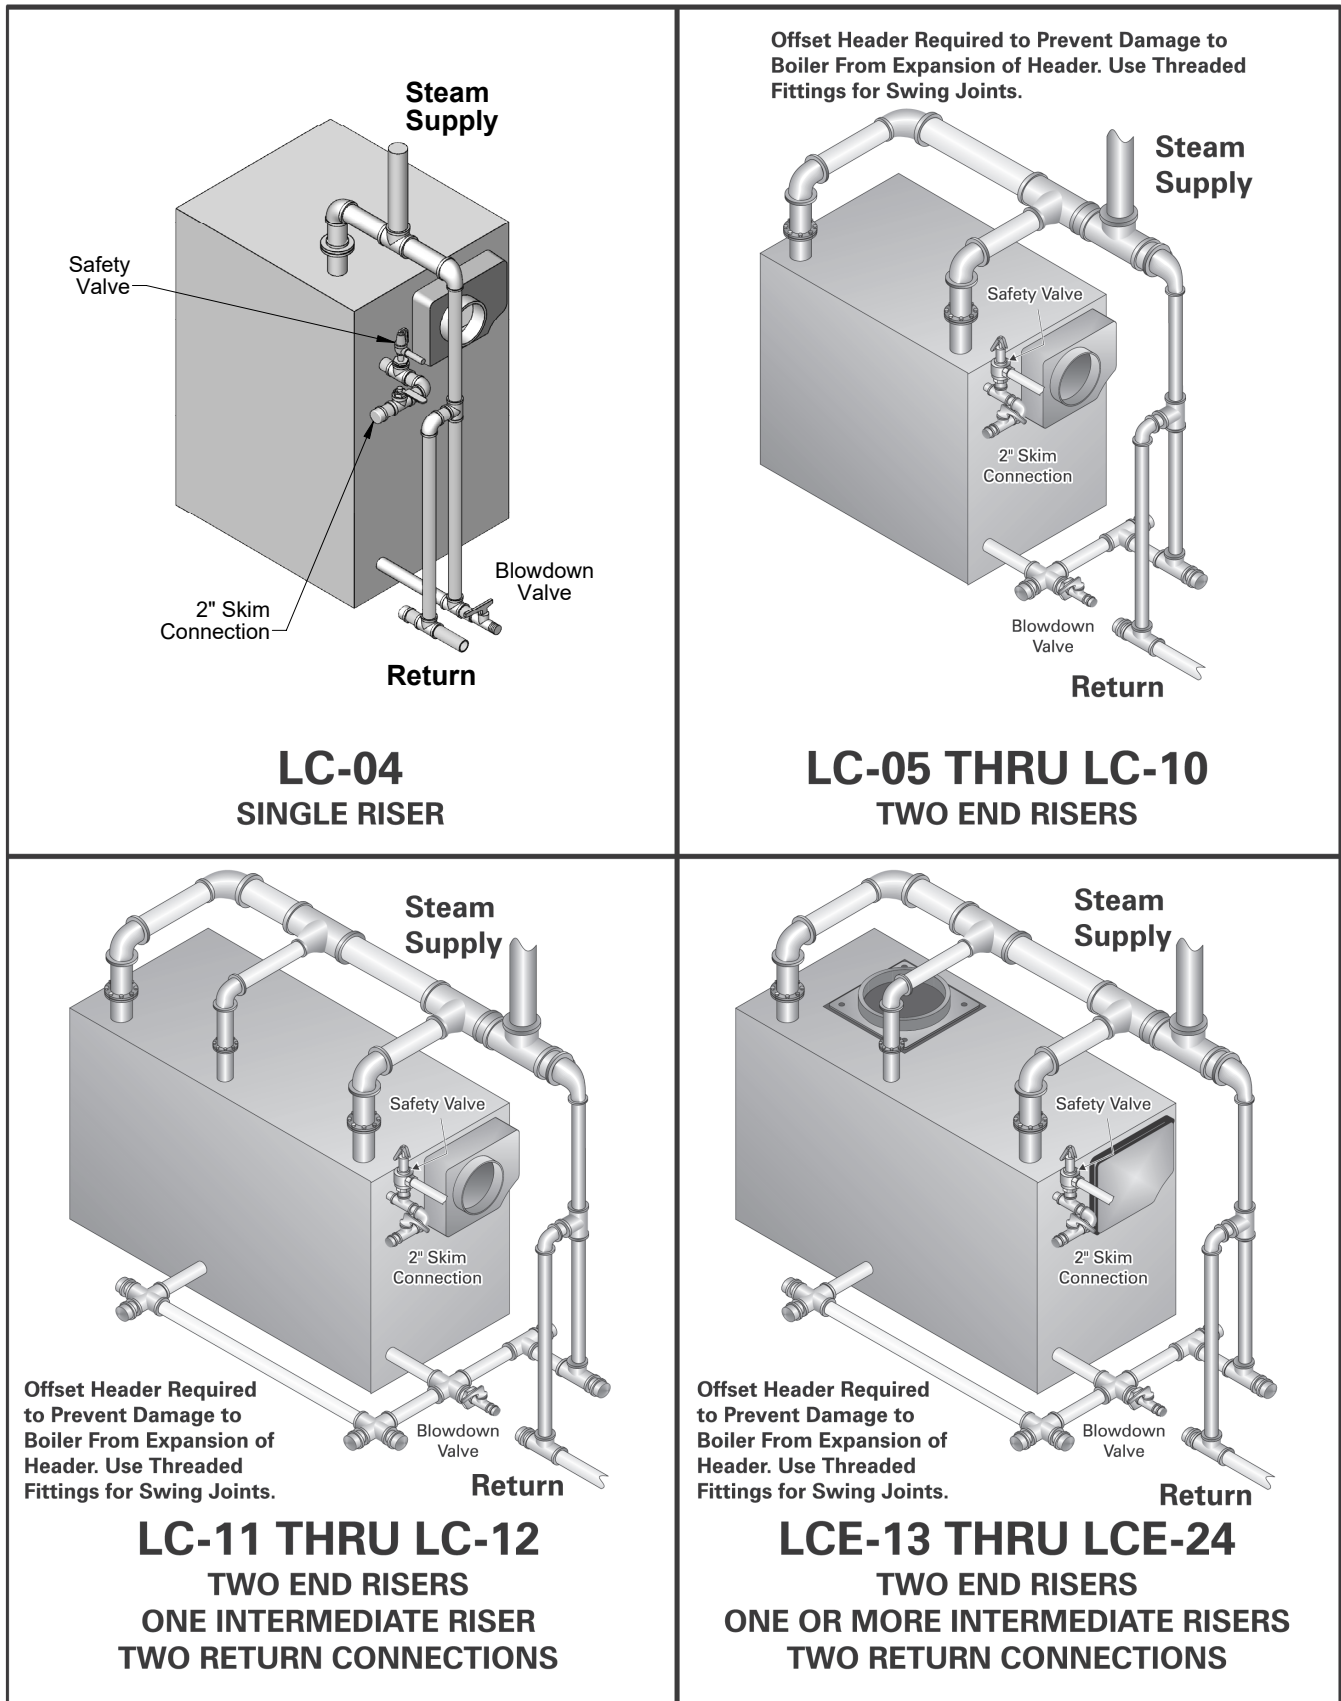

Figure 3.3: Supply and Return Piping – Pumped Return and Parallel Flow Gravity Systems
1. See Figure 3.3 for piping illustration.
4. Figure 3.3 shows the Supply and Return piping for Parallel Flow Gravity systems and all Pumped Return Systems.